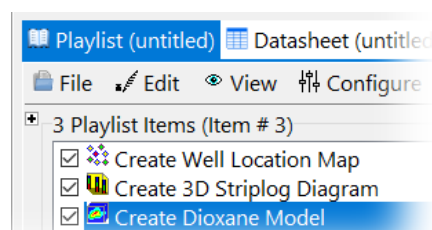

Figure 76
- Click on the *Playlist* button in the upper-right corner of the I-Data -> Solid Model menu and specify "Create Dioxane Model" as the Playlist item title. Save and run this Playlist (Figure 76) to make sure that everything is working properly.